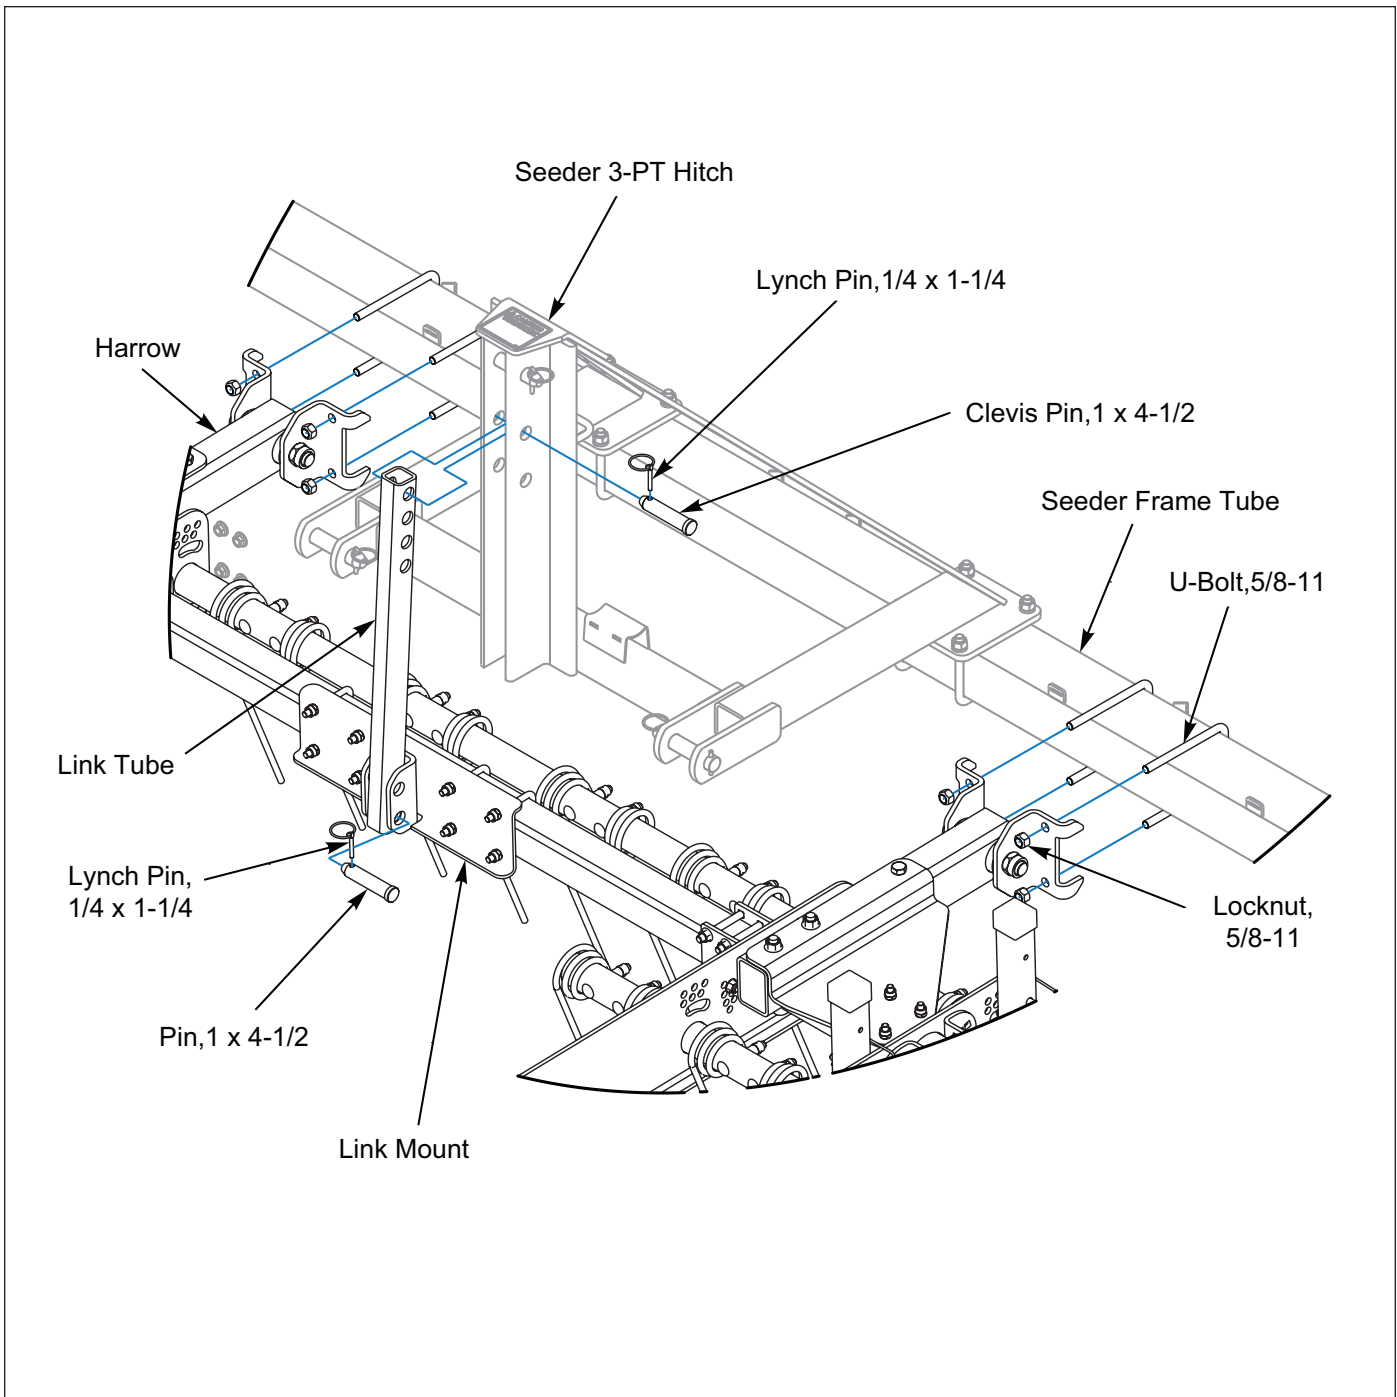

Figure 2-26: Center Harrow Installation
4. Assemble the Harrow Link Tube single hole end to Harrow Link Mount bottom hole with 1 x 4-1/2 Clevis Pin and 1/4 x 1-1/4 Lynch Pin. **See Figure 2-26.**